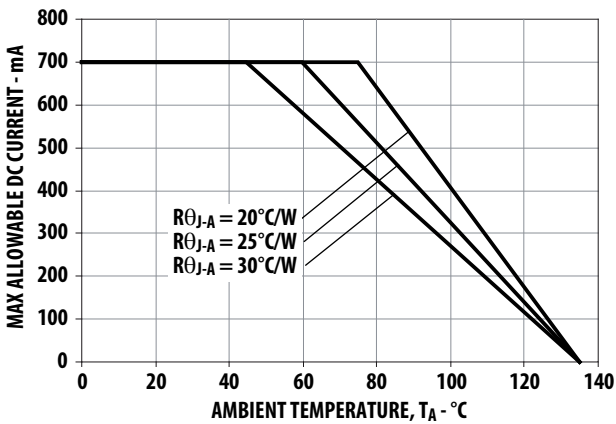

Figure 11. Maximum Forward Current vs. Ambient Temperature. Derated based on T_{JMAX} = 135°C, R_{θJ-A} = 20°C/W, 25°C/W and 30°C/W
1. Derate linearly based on Figure 11.